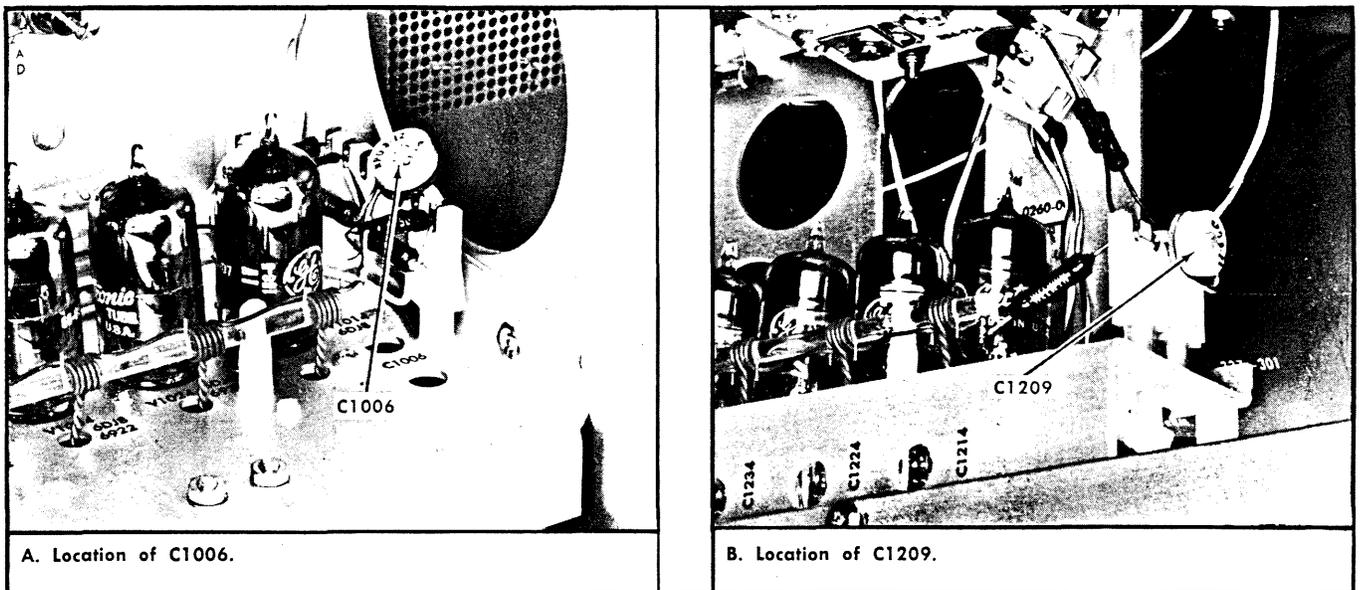

Fig. 6-39. Location of C1209 and C1006.
e. With the TIME/CM selector at .1 μ SEC position and the 5X MAGNIFIER turned ON, adjust C1209 (near V1214) and C1006 (Fig. 6-39) for optimum flat top and minimum aberrations. Check overall level by periodically switching from fast to slower sweep rates (5 to 10 μ SEC).